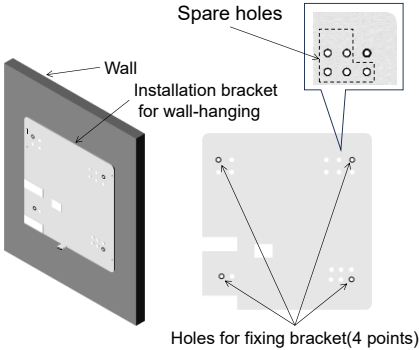

Fig. 3.4.5
- Place the bracket on the wall where you want to install it. Next, secure the bracket with wood screws (Fig. 3.4.5).